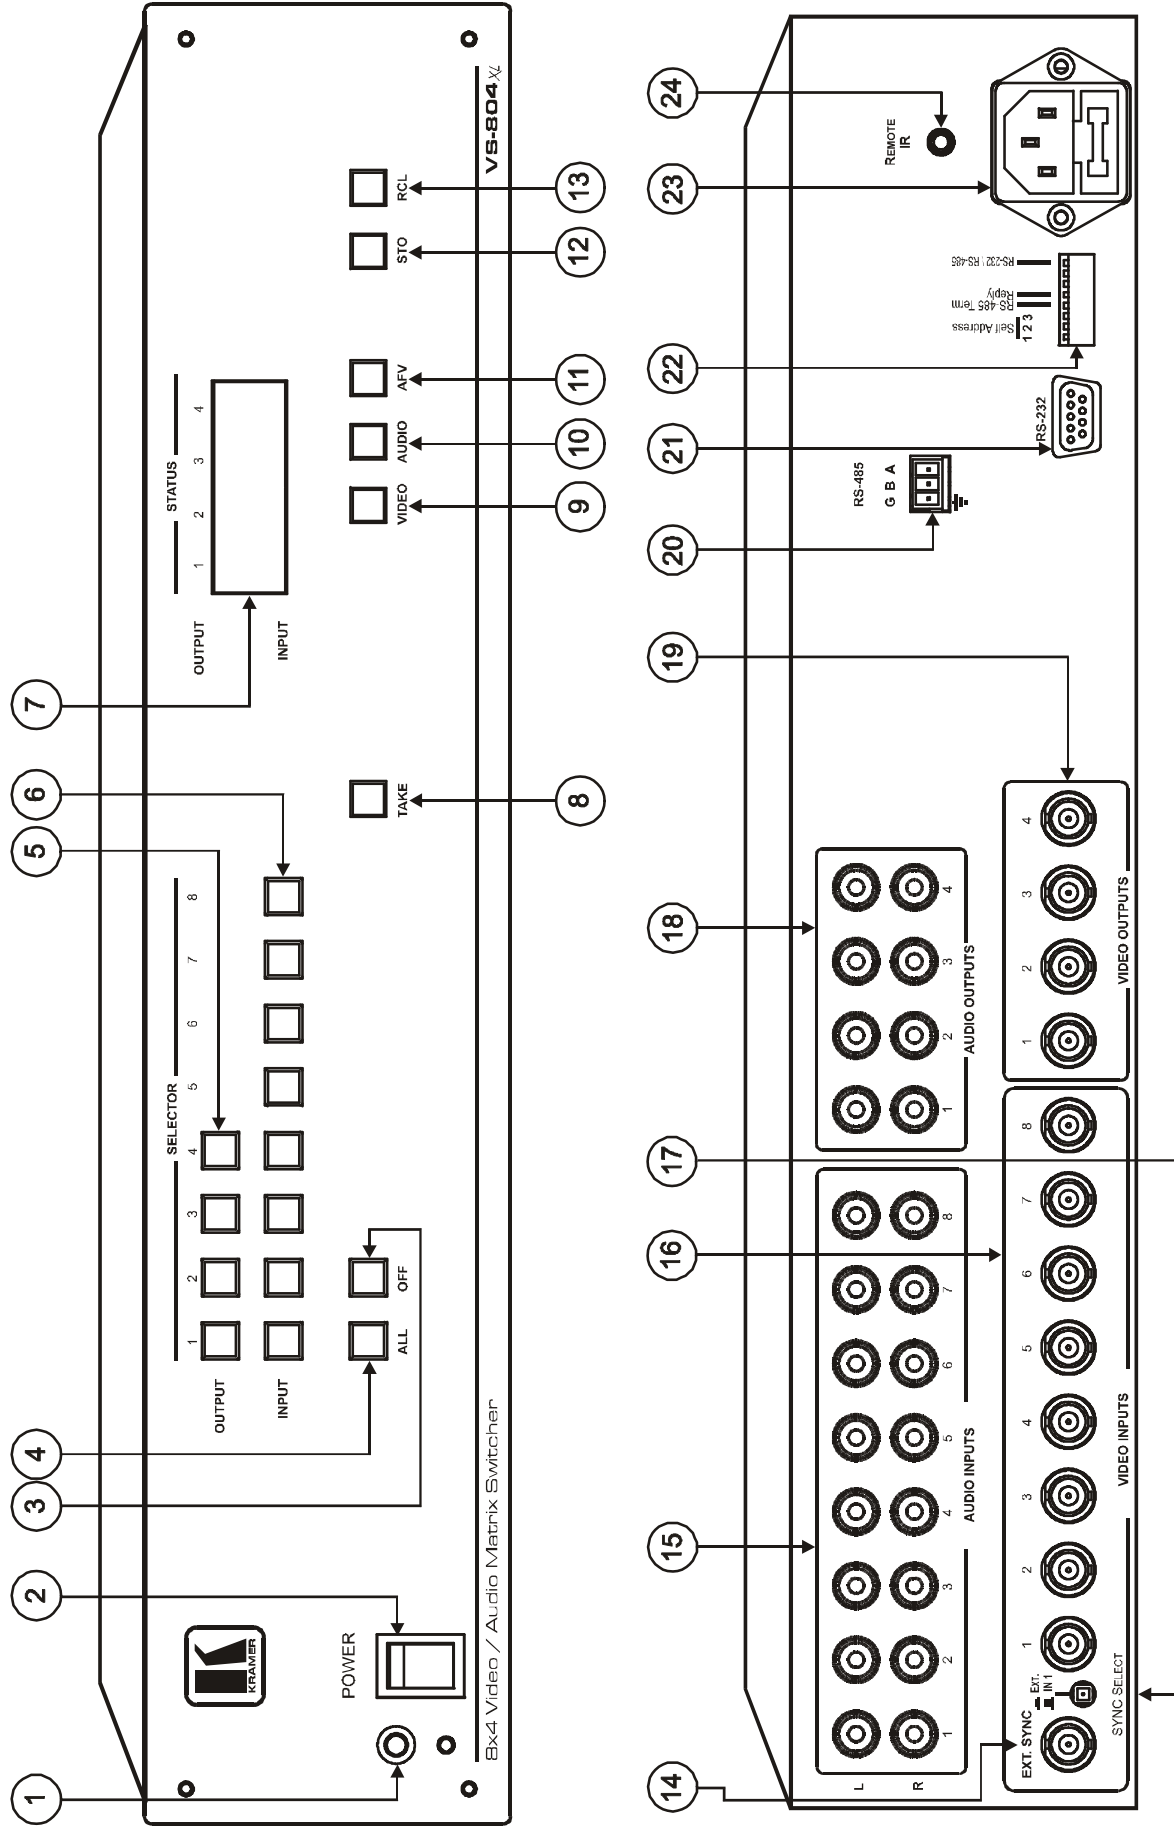

Figure 3: VS-804xl 8x4 Video/Audio Matrix Switcher
- **VS-804xl**, illustrated in *Figure 3*, has 8 inputs and 4 outputs